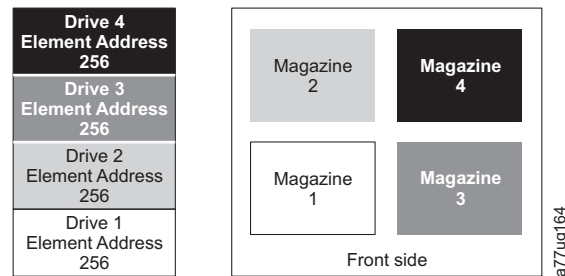

Figure 3-4. Configuration of a four - partition system
- Logical Library 1: Slot1 through 23 4096 (0x1000) through 4118 (0x1016) as shown in Figure 3-4 on page 3-6
When configured with four logical partitions, the Element Address assignments will be as follows: DTE assignments will be as shown in Figure 3-4 on page 3-6.